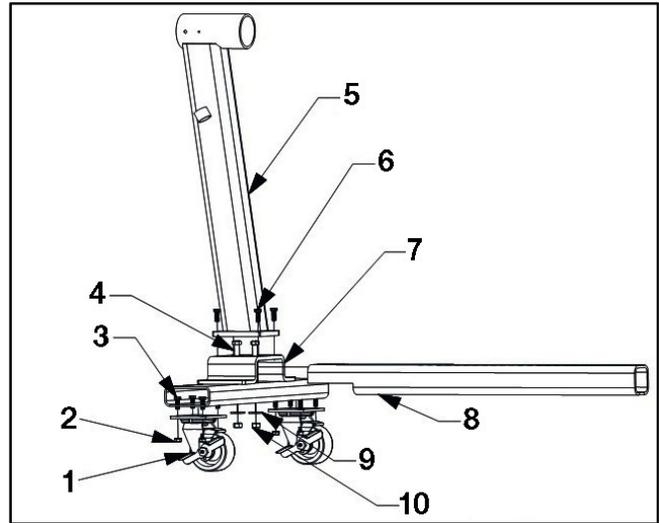

Fig. 4: Front subassembly
- 2 3/8-16UNC Flanged lock nut (8)
- 3 1" L, 3/8-16UNC Grade 5 cap screw (8)
- 4 5" L, 1/2-13UNC Grade 5 cap screw (2)
- 6 1" L, 3/8-24UNF Grade 5 cap screw (4)
- 9 1/2" Type A flat washer (2)
3. Use (4) 3/8-16UNC grade 5 cap screws 1" long and (4) 3/8-16 UNC flanged lock nuts to fasten each of (2) casters to Front Caster Tube (Fig. 4).
4. Use (2) 1/2-13UNC grade 5 cap screws 5" long with (2) 1/2" Type A flat washers and (2) 1/2-13 UNC nuts to fasten the Front Caster Tube to the Inner Main Tube. Torque to 70 ft-lbs minimum ensuring the Inner Main Tube is perpendicular to the Front Caster Tube (Fig. 4).
5. Use (4) 3/8-24UNF grade 5 cap screws 1" long to fasten Front Post to Front Caster Tube. Torque to 30-35 ft-lbs (Fig. 4).